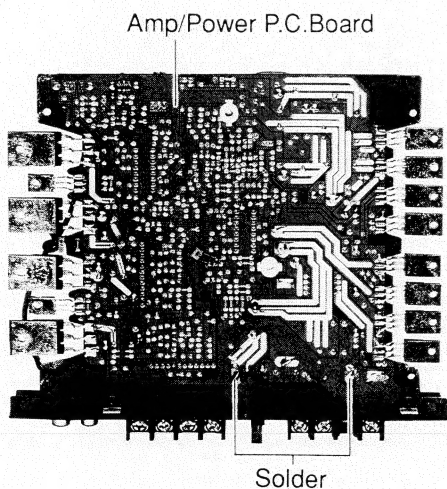

Figure 3
- (2) Remove solders located two places as shown in Figure 3.